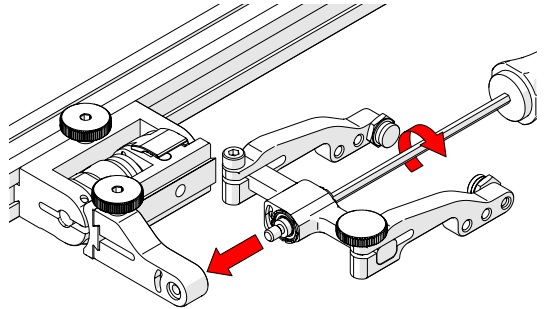

Fig. 64 - Install yoke to swing arm
6. Using the 3 mm hex driver, screw the yoke pivot screw into the opposite side of the probe holder swing arm (Fig. 64). Ensure the yoke is level to avoid issues with the plunger/set screw.